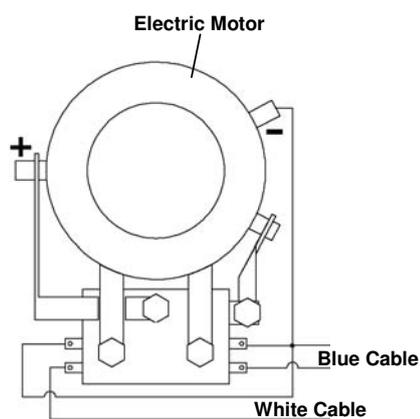

Fig. 30
If it happens that during testing the direction of thrust does not correspond with the direction of the switch on the control panel, the blue cable (A) and the white cable (B) on the relay must be inverted (Fig. 30).